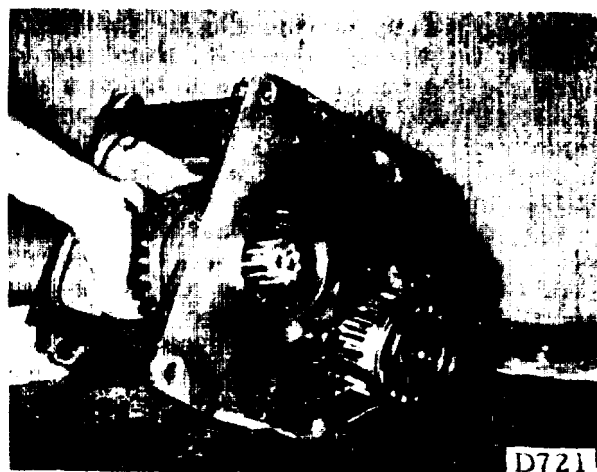

FIGURE 7-68.
d. Insert the small splined end of the output shaft through the low driven gear. Fill the space between the gear and shaft with needle bearings with oil or grease. Manually spin the gear. Slide the wear plate over the splined end of the shaft (see figure 7-68).